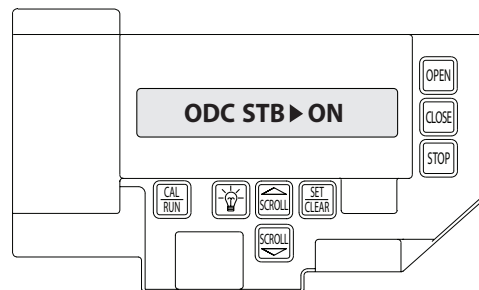

Figure 9
- 2) Press SCROLL  (up or down) until display reads "ODC STB>ON" or "ODC STB>OFF" **Figure 9**.